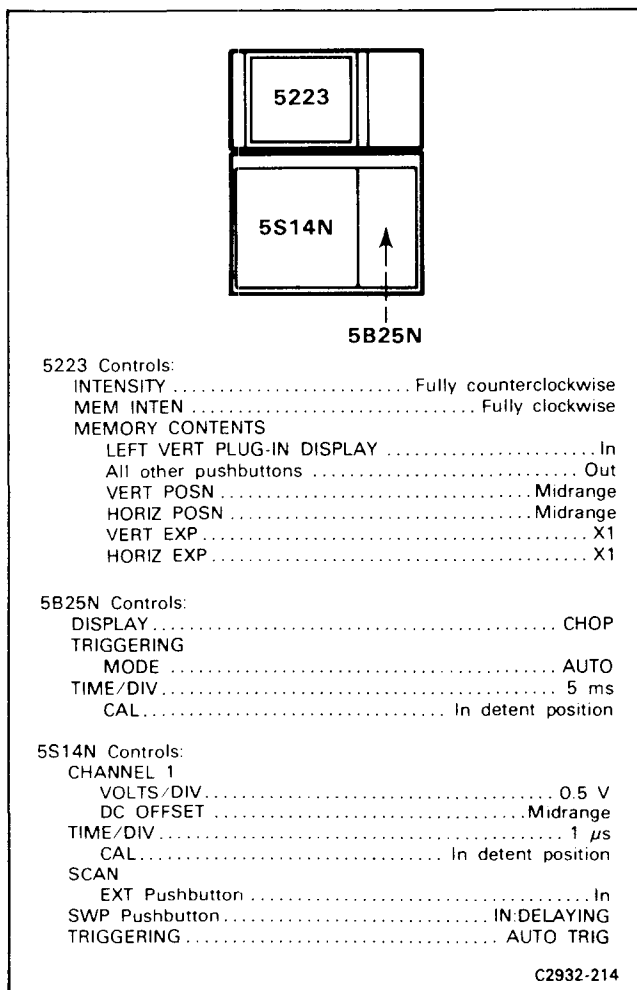

Figure 2-16. Setup for operating the 5S14N with the 5223.
1. Perform the setup as shown in Figure 2-16.